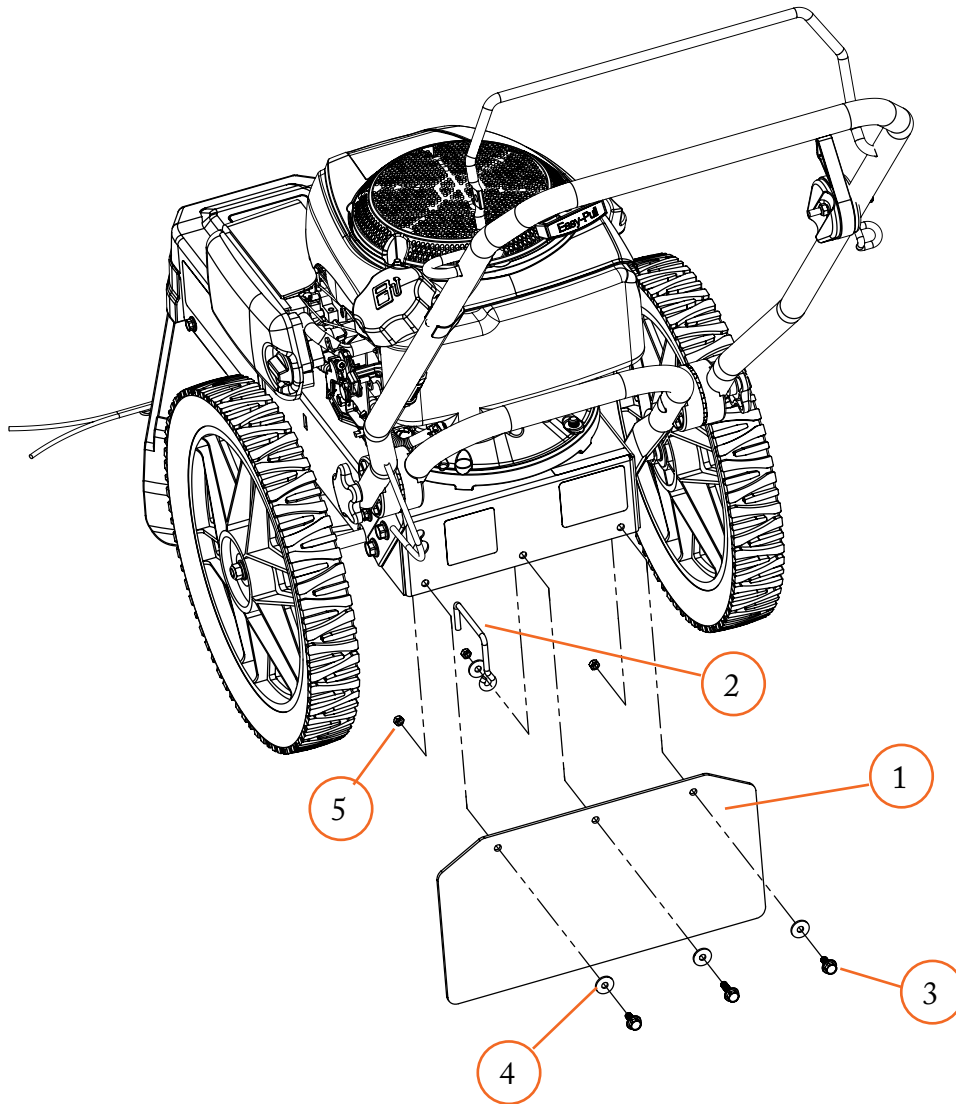

Figure 3
3. Assemble rubber debris guard using the hardware provided (see Figure 3). Be certain to orient the belt guide in the vertical position (as shown) to prevent the belt from slipping off the engine pulley.